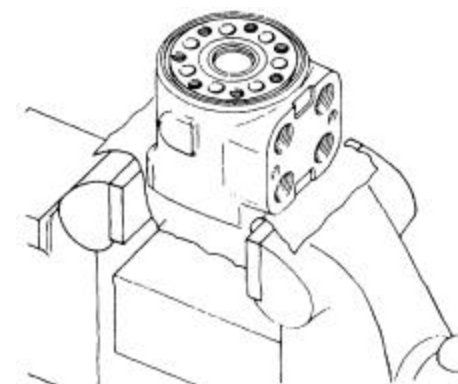

Figure 20
18. Clamp housing in vise, as shown in Fig. 20.